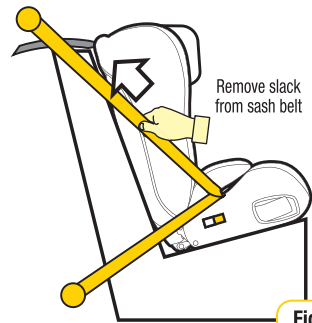

Figure 6
Step 3: Push down on the base of the restraint (with knee or hand) whilst pulling the sash section of the vehicle belt firmly up in direction of the yellow arrow in Figure 4. This will make the lap belt very tight across the restraint base. Whilst continuing to pull the sash section up (i.e. maintaining tightness of the lap section). Tighten sash section of belt across the base (refer Figure 6).